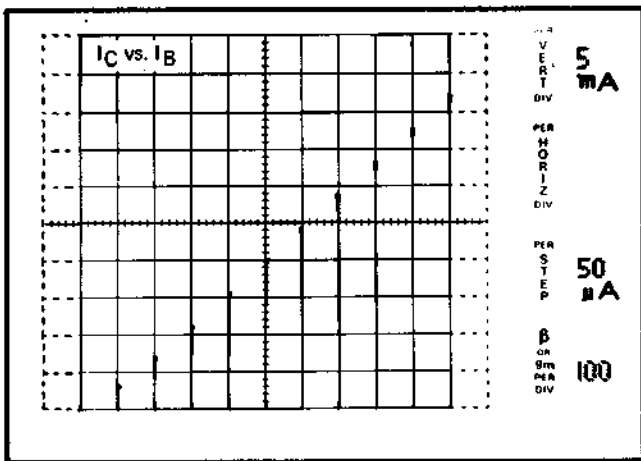

Fig. 2-15. I_C vs. I_B , I_B @ 50 μA per division.
56. Set the VERTICAL switch to 5 mA and the HORIZONTAL switch to STEP GEN. Note the display of collector current vs. base-current, one step per horizontal division (see Fig. 2-15).